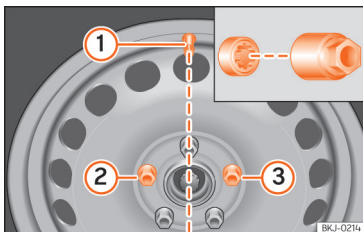

Fig. 253 Tyre change: tyre valve ① and the correct position for the anti-theft wheel locking bolt ② or ③.
On wheels with integral hubcaps, the anti-theft wheel locking bolt must be screwed in the positions >>> Fig. 253 ② or ③, taking as reference the position of the tyre valve ①. Otherwise it will not be possible to mount the hubcap.